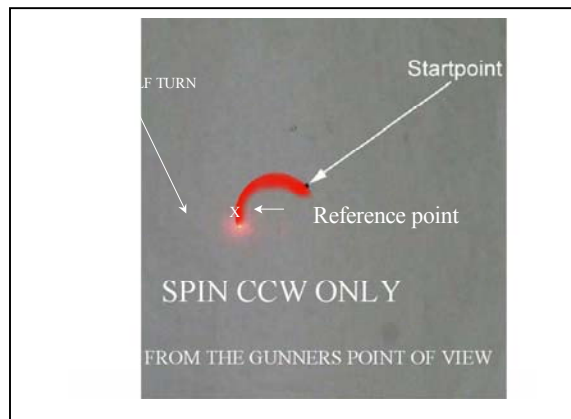

Figure G-4. Example of a start point, half-turn point, and reference point.
(5) *Reference Point.* The reference point is the point that is about half way between the *start point* and the *half-turn point* (Figure G-4).